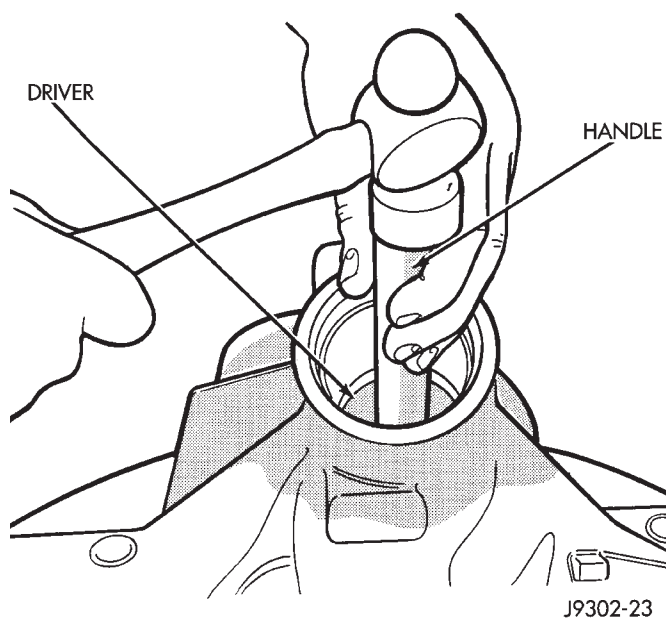

Fig. 28 Rear Bearing Cup Removal
(7) Remove the rear bearing cup from housing (Fig. 28). Use Remover C-4307 and Handle C-4171.